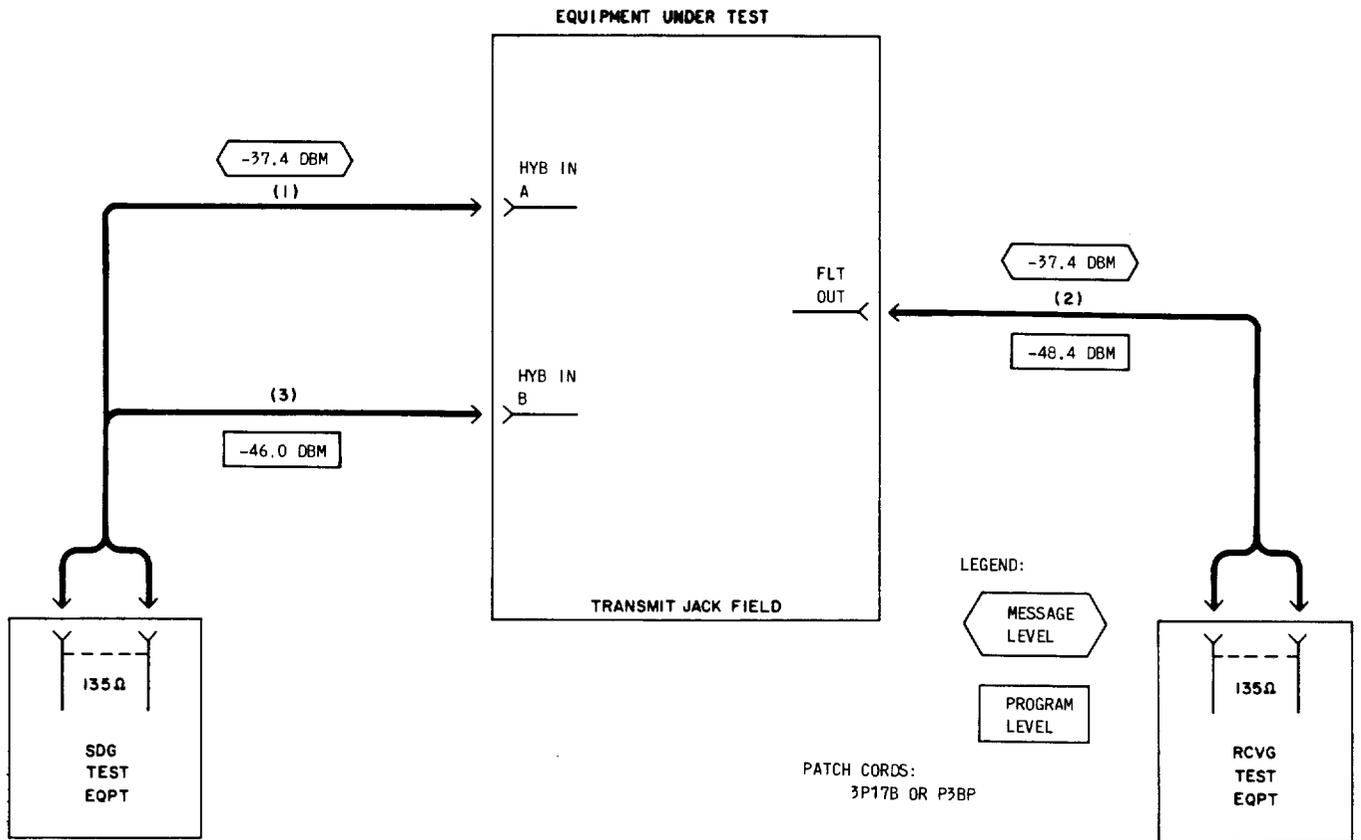

Fig. 5—Transmit Combining Module Test Connections
- 3 Connect the STE to the HYB IN A jack [patch (1), Fig. 5].
- 4 Connect the RTE to the FLT OUT jack [patch (2), Fig. 5].
- 6 Remove patch (1), Fig. 5.
- 8 Connect the STE to the HYB IN B jack [patch (3), Fig. 5].
- 10 Remove patch (3), Fig. 5.
12	Connect the STE to the HYB IN A jack [patch (1), Fig. 5].
19	Remove patches (1) and (2), Fig. 5.
4	Connect the STE to the HYB IN A jack [patch (1), Fig. 5].
5	Connect the RTE to the FLT OUT jack [patch (2), Fig. 5]. At transmit combining module,
37	Remove patches (1) and (2), Fig. 5. Note: The transmit combining module is now ready for in-service use.